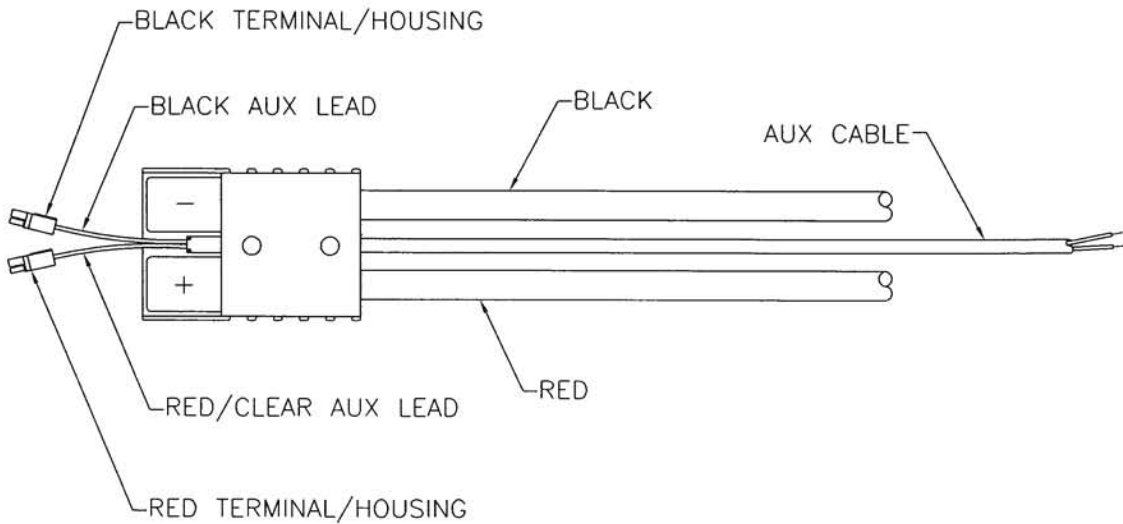

Fig. 2
- Insert the unstripped end of the auxiliary cable harness through the front end of the charger SBX connector. See Fig. 2.